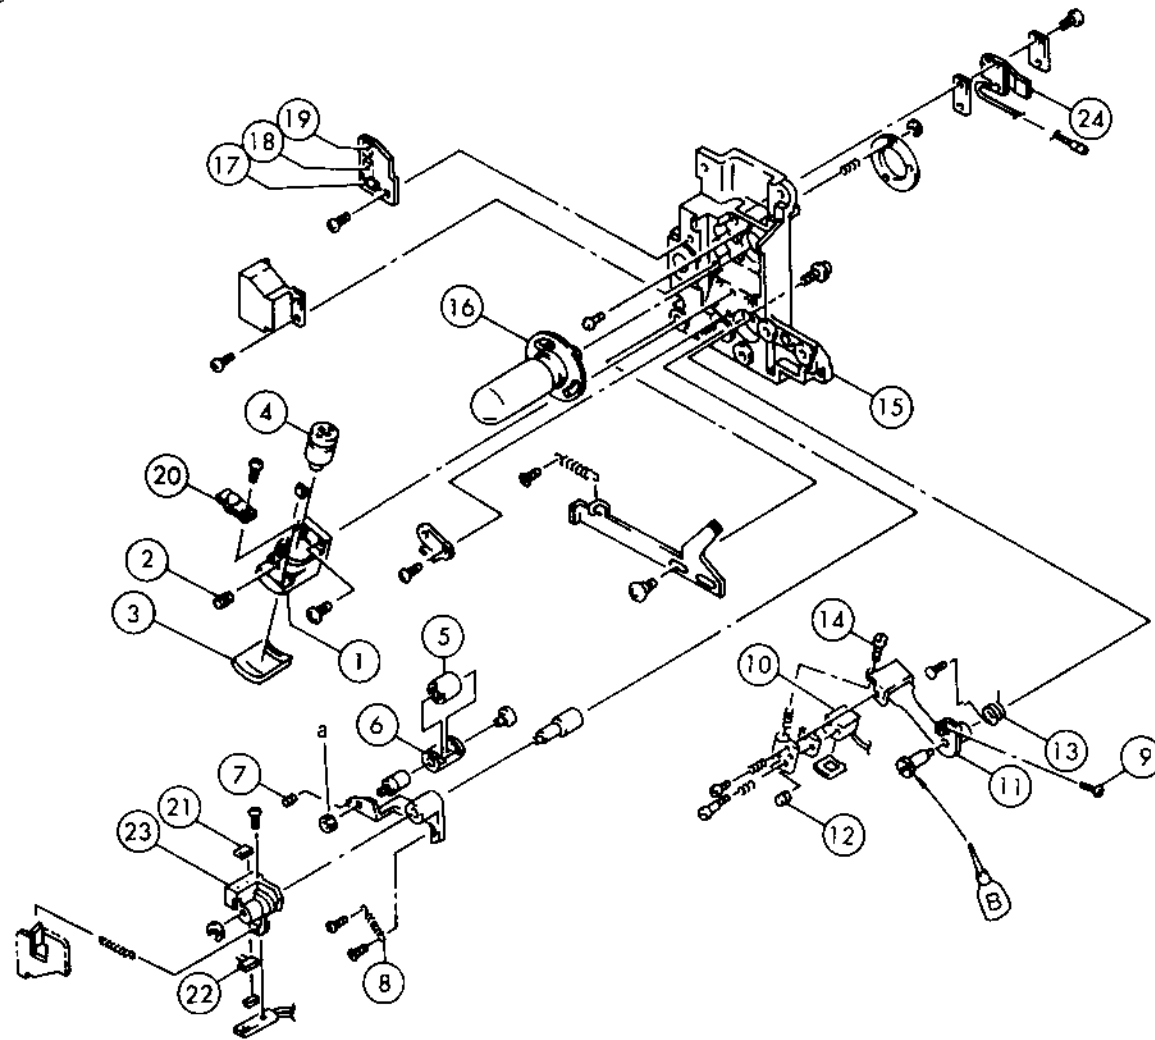

Fig. 49
1. Never remove ① from ④ since it is installed with special jig.
2. For further disassembly, refer to Fig. 49.